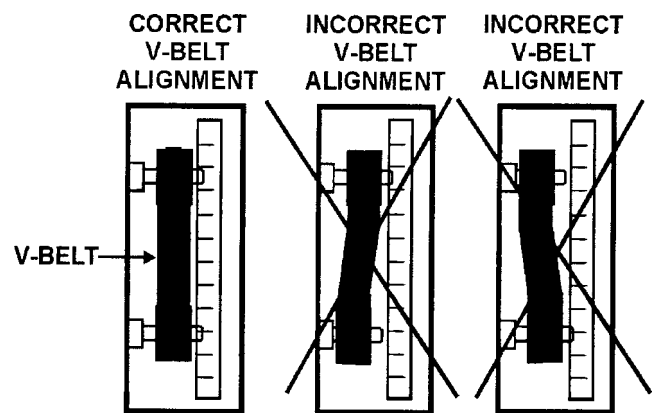

Figure 7. Pulley Alignment
2. Check uniform parallelism (Figure 7) of V-belt and pulley (sheaves). Use a straight-edge or machinist's square against both pulleys and adjust both pulleys until equally aligned.